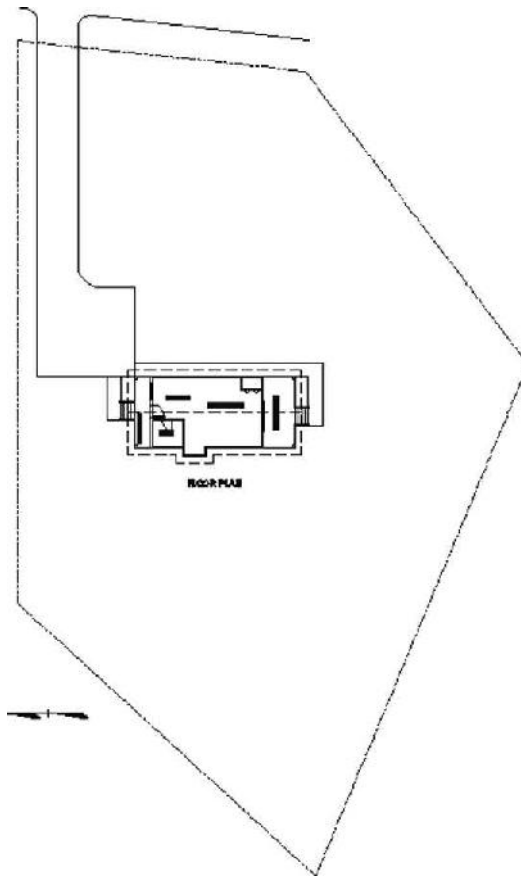
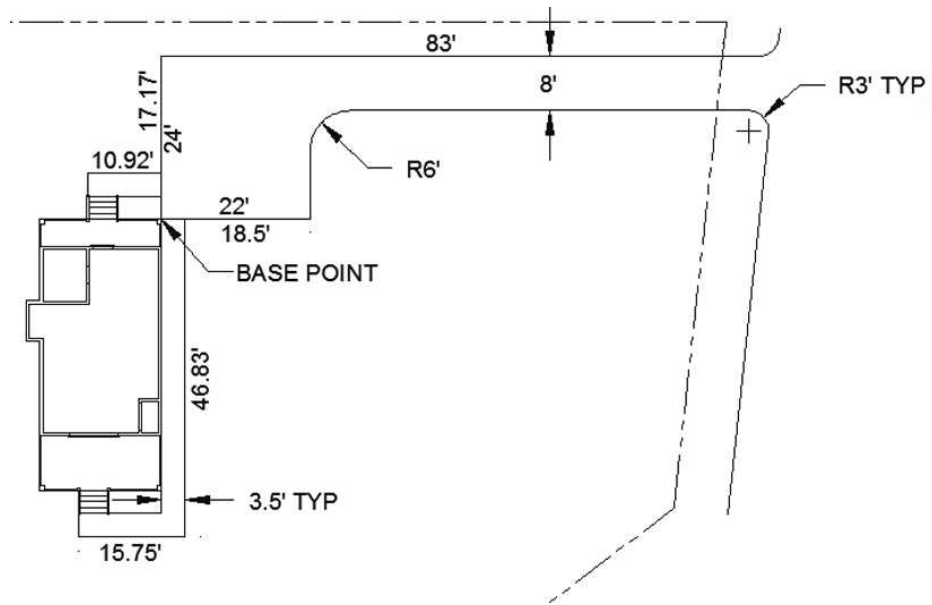
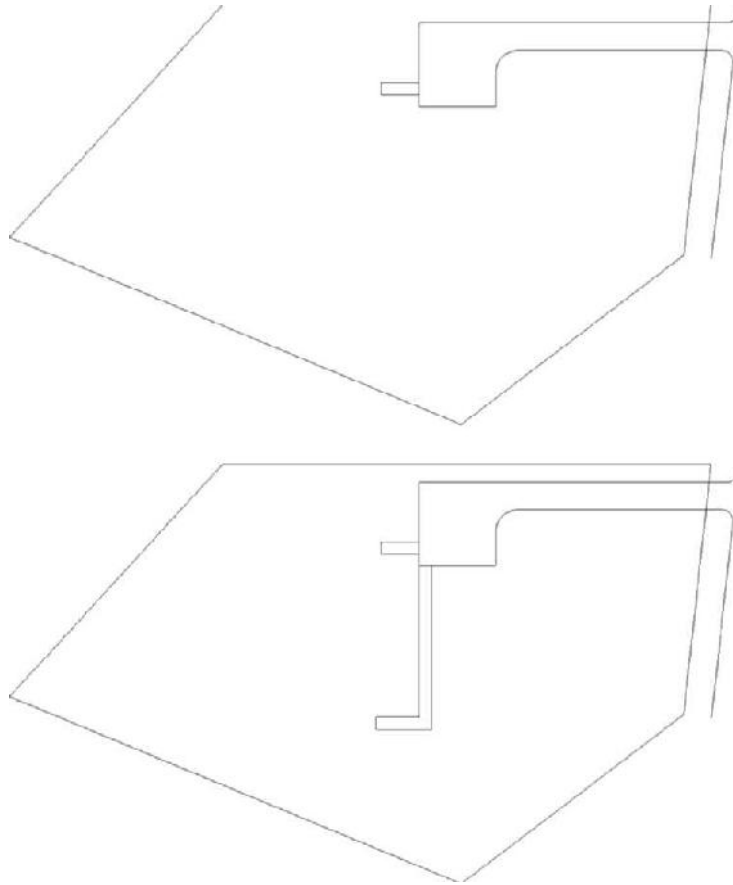

FIGURE 13.1: The cabin with the site plan as an external reference
FIGURE 13.8 : The driveway and patio lined up with the cabin
FIGURE 13.10: The first sidewalk (top) and the second sidewalk (bottom)
In Figure 13.1, the lines of the site plan constitute the Xref, and the rest of the objects are part of the host drawing.
As shown previously in Figure 13.1, the end of the driveway lines up with the top-rear corner of the cabin. Extending from the driveway are sidewalks that run to the front and rear steps. This locates the cabin on the site (see Figure 13.8).
See the top of Figure 13.10. You can refer to Figure 13.8 to see the dimensions if necessary.
The bottom of Figure 13.10 shows the completed side and front sidewalk.
7. Type **BASE**↵, and click the lower-left corner of the driveway. Refer to Figure 13.8 if necessary.